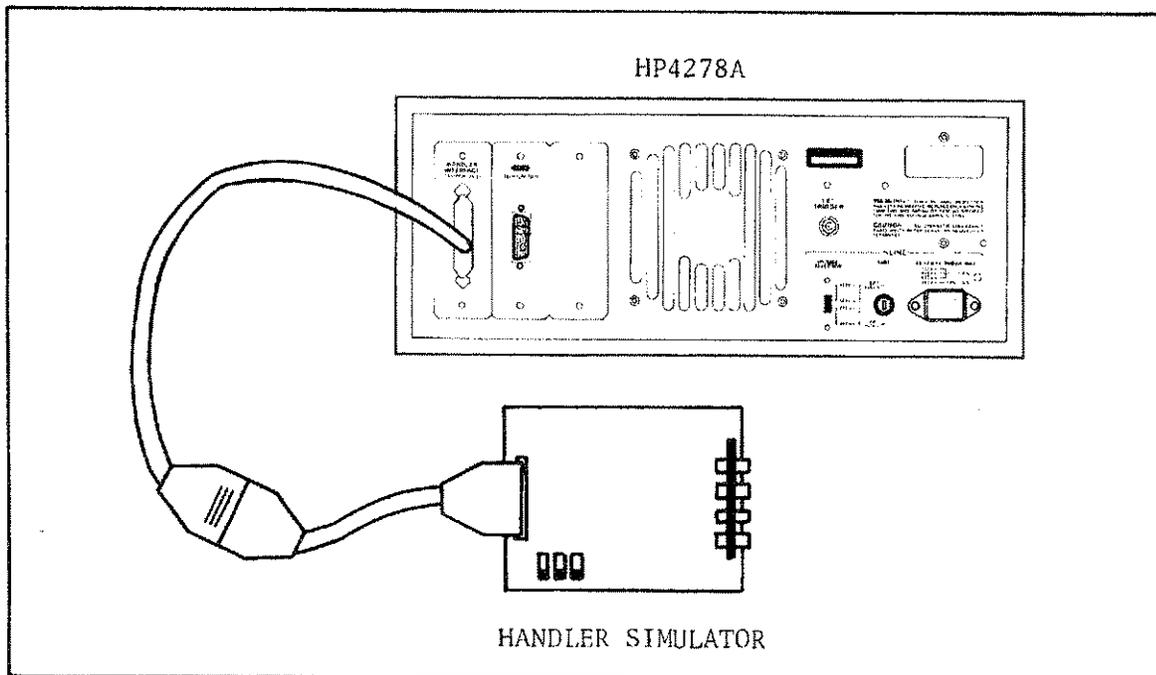

Figure 6-14. Handler Interface Test Setup (Option 202)
7. Connect the handler interface connector on the 4278A's rear panel to the handler simulator as shown in Figure 6-14.